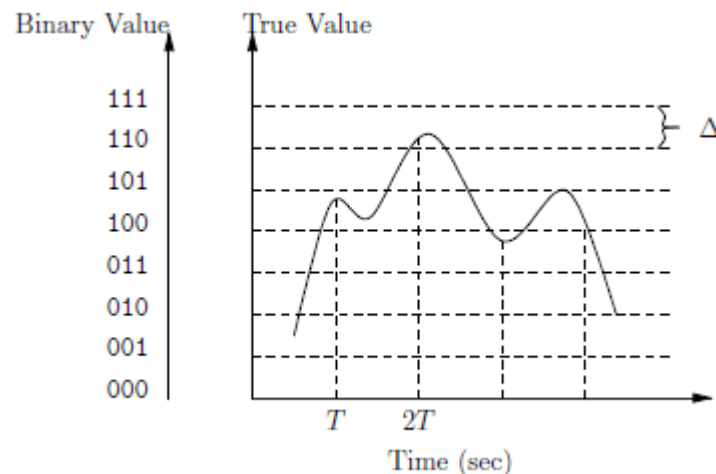

Figure 1. Sampling and Digitizing of a Continuous Signal
This process is accomplished using an analog-to-digital converter (ADC). Figure 1 is an example of sampling and digitizing of a continuous signal. First, the signal value is captured at a fixed point in time, then this value will be approximated to the closest digital level available. In this case, each value is represented using only 3 bits and therefore there is only 8 different digital values as opposed to the infinite values that can be represented by the continuous signal.
1. If your ADC is 8-bits, how many digital levels do you have? What is the resolution of this ADC if it operates in the range of 0-5V, e.g. looking at Figure 1, what is Δ in volts?. If the input is 2.5V, what is the output?